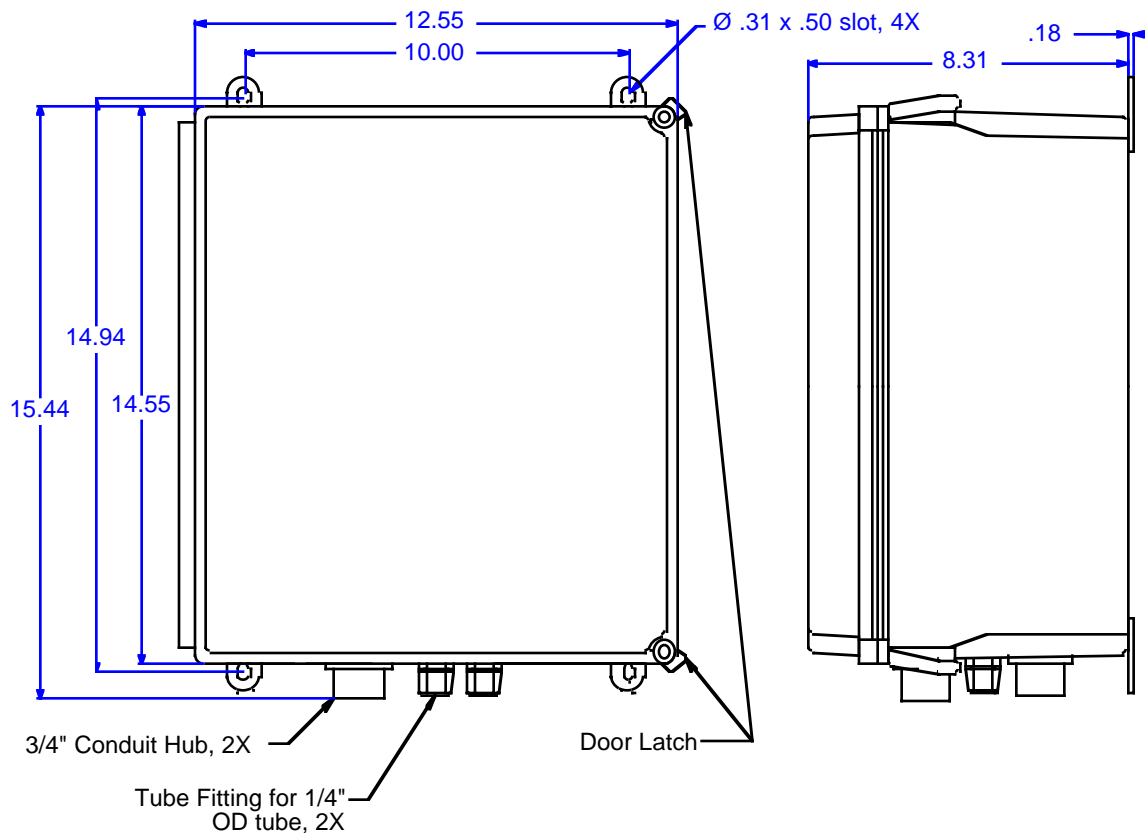

Figure 4: Mounting the sample draw Detector
3. Slightly loosen the screw that secures one of the mounting feet to the housing, then rotate the mounting foot 180 degrees (see Figure 4).
5. Connect the cable to the sample draw detector's interconnect terminal strip as shown in Figure 4.